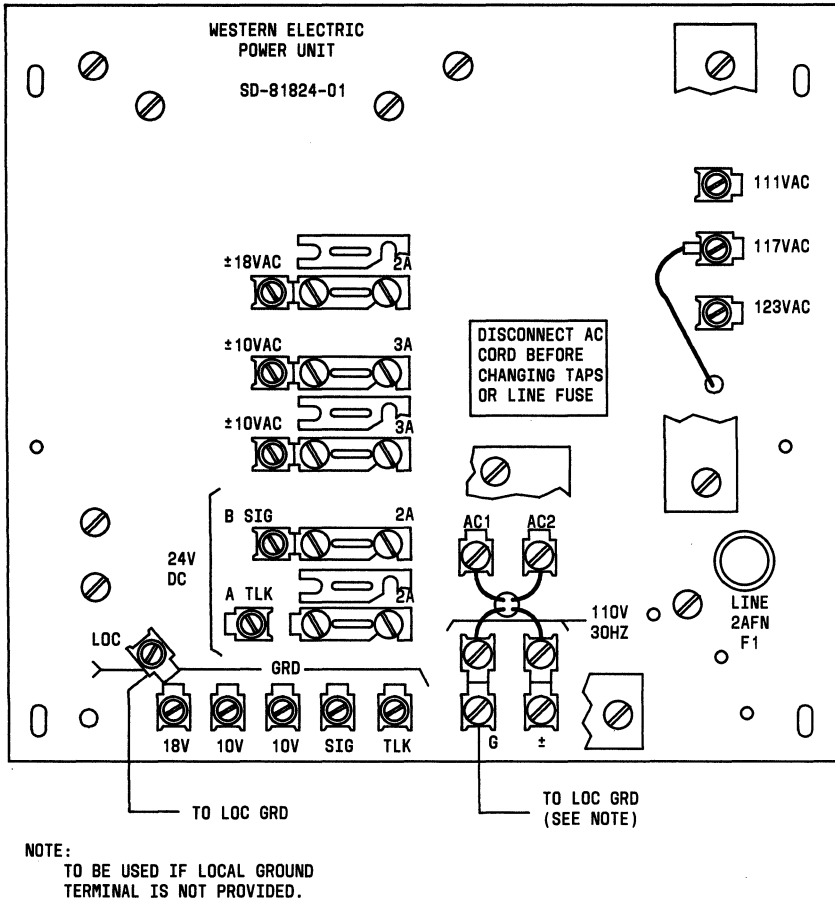

Fig. 5—Wiring Connection for 20A2 Power Unit
4. CONNECTIONS (Fig. 5)
- 4.05** Connect LOC GRD as shown in Fig. 5.
the station ground wiring leads should be connected to their *designated* ground terminals (Fig. 5).